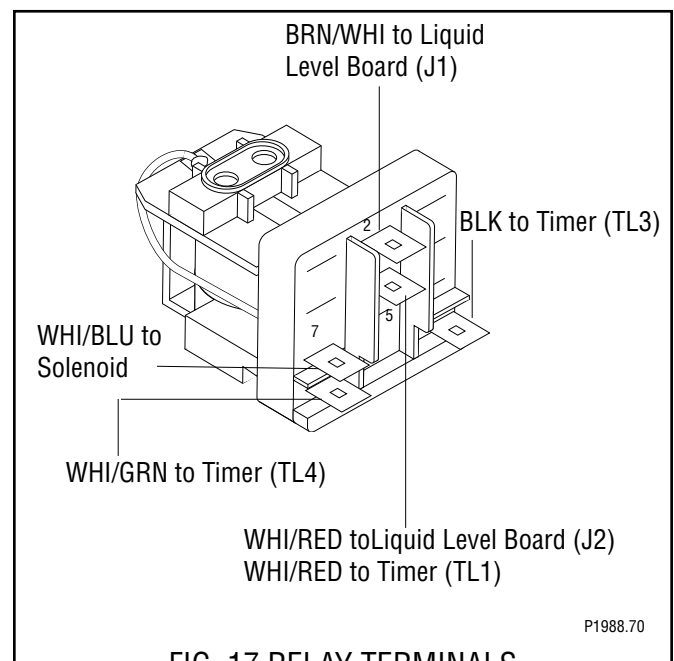

FIG. 17 RELAY TERMINALS
6. Refer to FIG. 17 when reconnecting the wires.